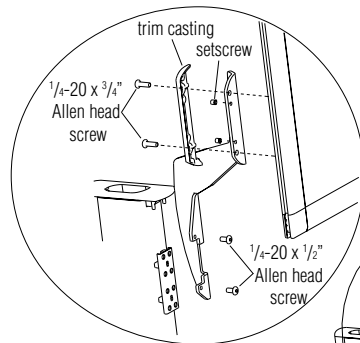

Figure 6
7. Install screen to bracket and trim casting using two 1/4"-20 x 3/4" Allen socket screws (Figure 6).